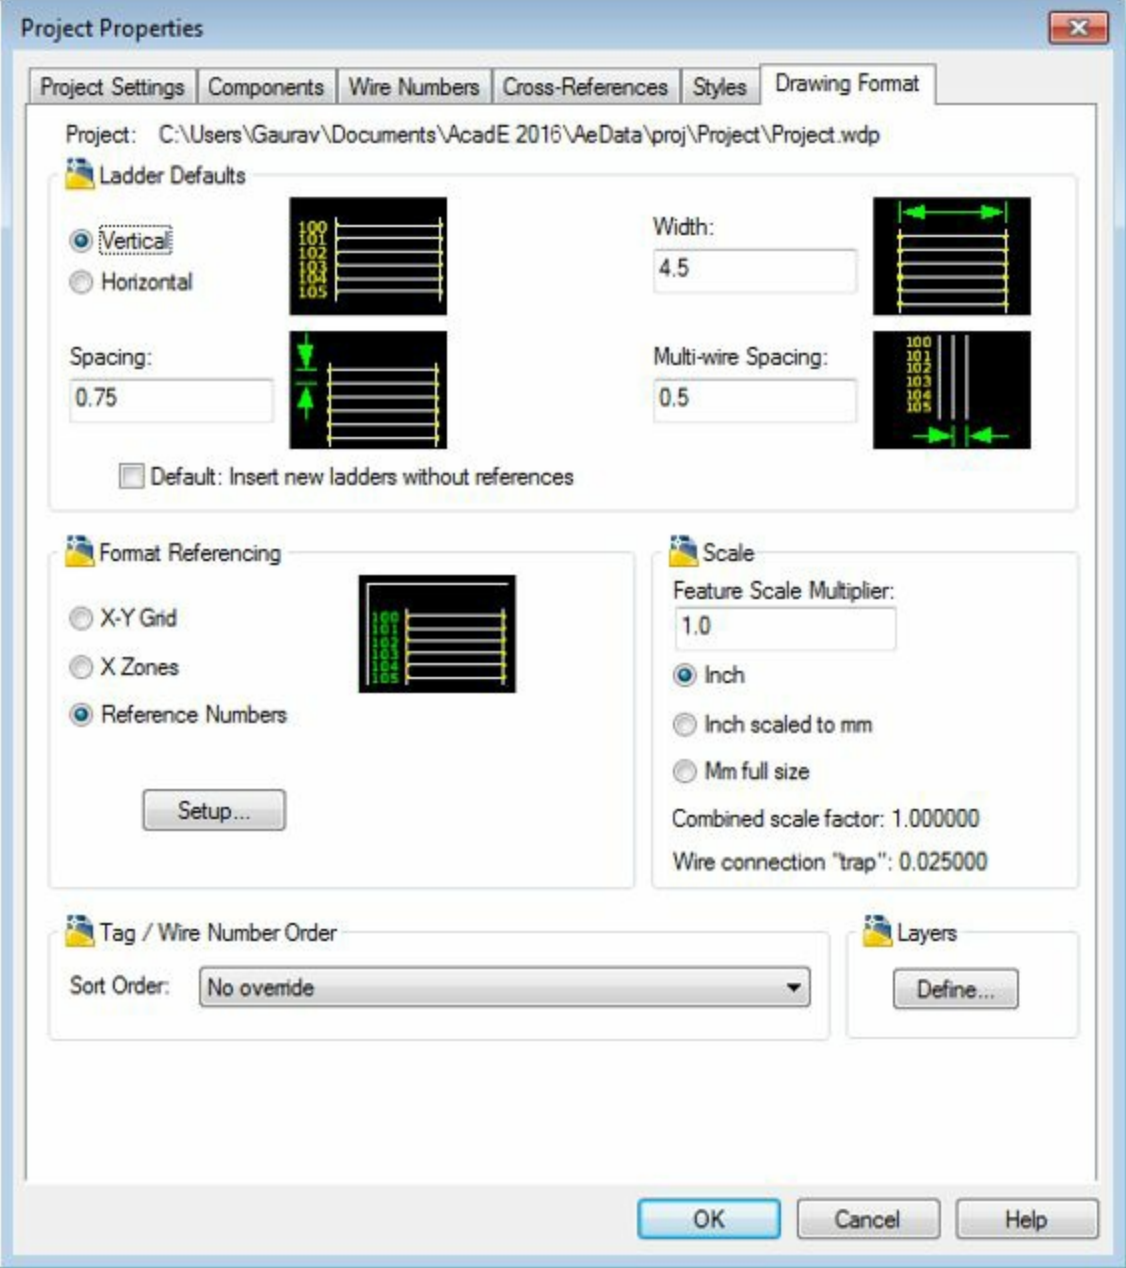

Figure-4. Project Properties dialog box
- Click on the Drawing Properties tab from the dialog box. The options in the dialog box will be displayed as shown in Figure-4.